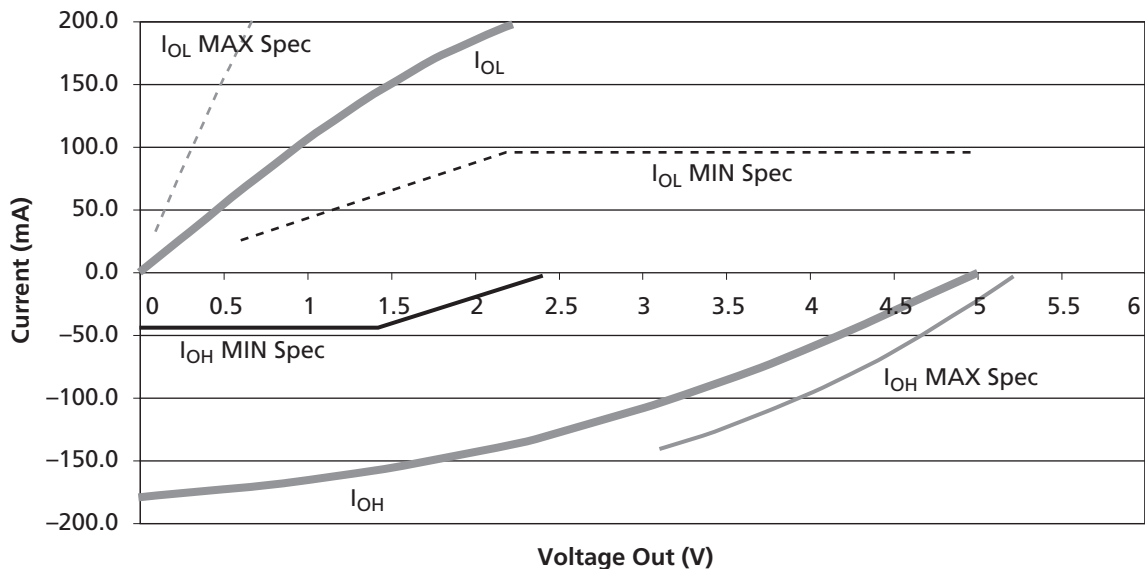

Figure 1-11 • 5 V PCI Curve for HiRel SX-A Family
Figure 1-11 shows the 5 V PCI V/I curve and the minimum and maximum PCI drive characteristics of the HiRel SX-A family.
1. Refer to the *VII* curves in Figure 1-11 on page 1-12. Switching current characteristics for REQ# and GNT# are permitted to be one-half of that specified here; i.e., half-size output drivers may be used on these signals. This specification does not apply to CLK and RST#, which are system outputs. "Switching Current High" specifications are not relevant to SERR#, INTA#, INTB#, INTC#, or INTD#, which are open drain outputs.